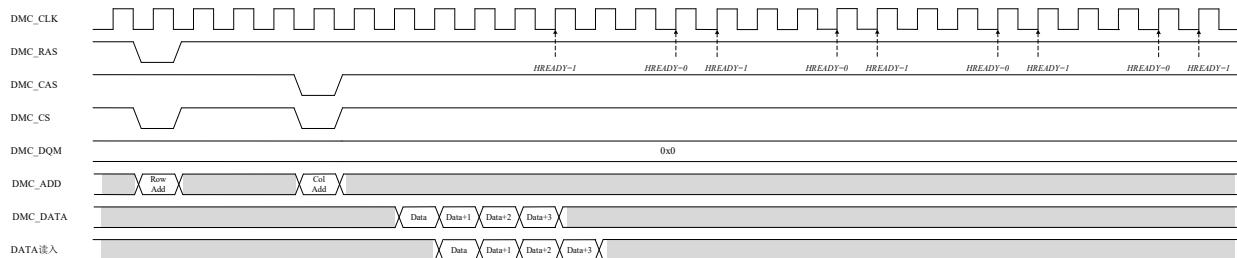

Figure 40-32 Burst read operation basic timing (32-bit width (DMCMW=10) & BURST=010)
c) Figure 40-32 is the basic timing diagram of burst read operation.